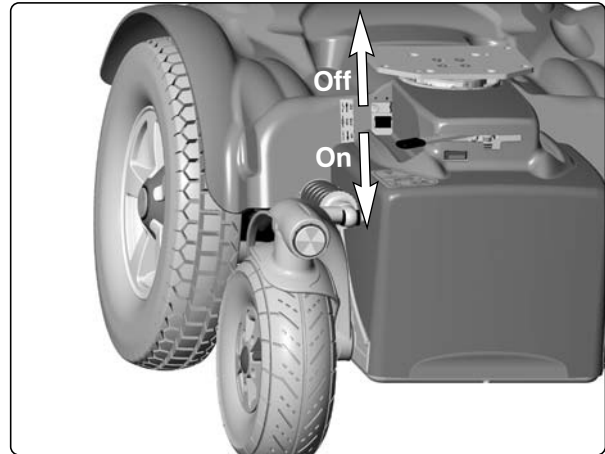

Fig. 6. Circuit breaker/Battery isolator.
2. Put the circuit breaker in the "OFF" position. It is accessed through a hole in the chassis cover; see figure 6.
6. Put the circuit breaker in the "ON" position. It is accessed through a hole in the chassis cover; see figure 6.
2. Put the circuit breaker in the “OFF” position. It is accessed through a hole in the chassis cover; see figure 6.
4. Put the circuit breaker in the “ON” position. It is accessed through a hole in the chassis cover; see figure 6.